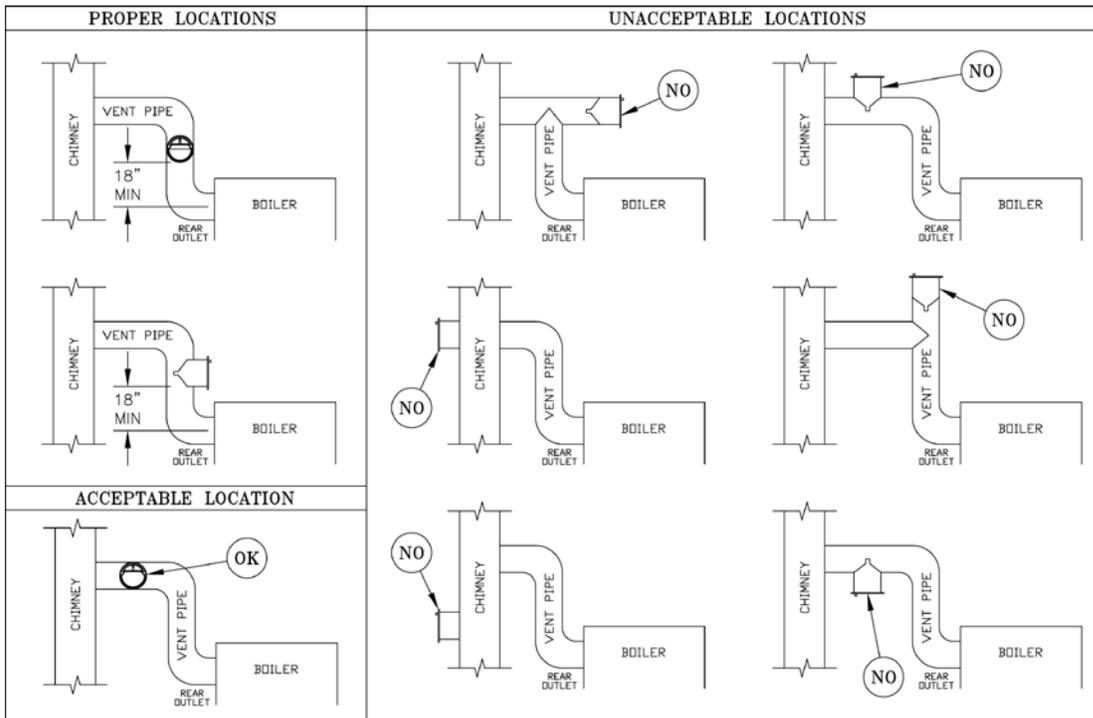

Figure 15: Proper and Improper Locations of Draft Regulator
2. After determining location, cut a hole in the wall to accept 4 inch air intake pipe. See Figure 15.